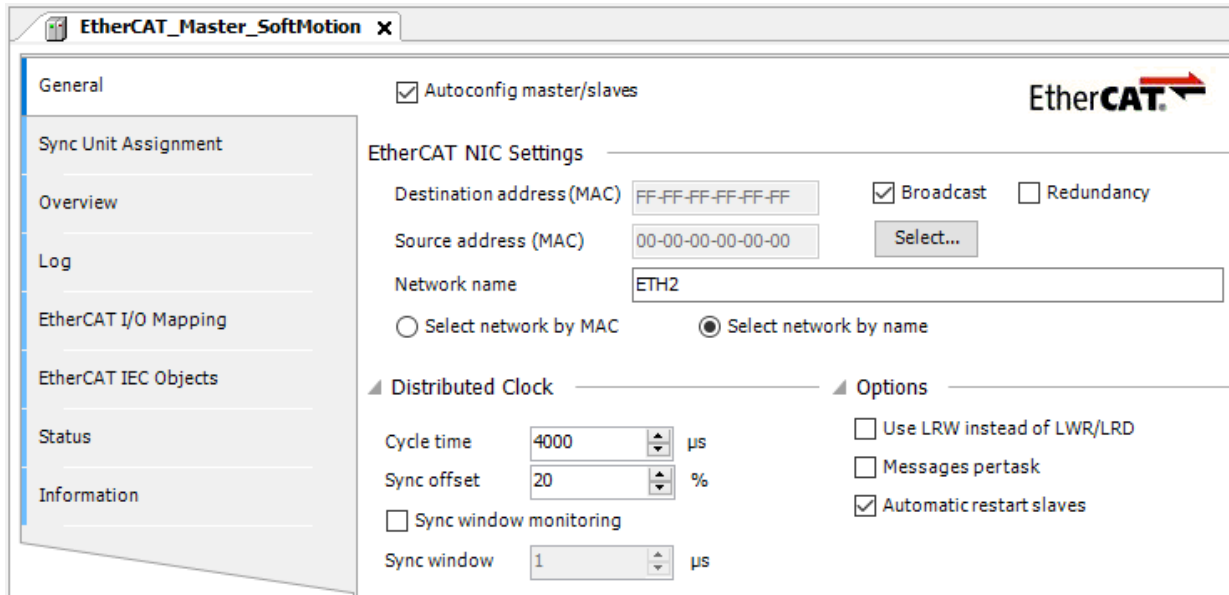

Figure 2.7: Default EtherCAT Master SoftMotion settings.
- Configure the other options on the page as shown in Figure 2.7